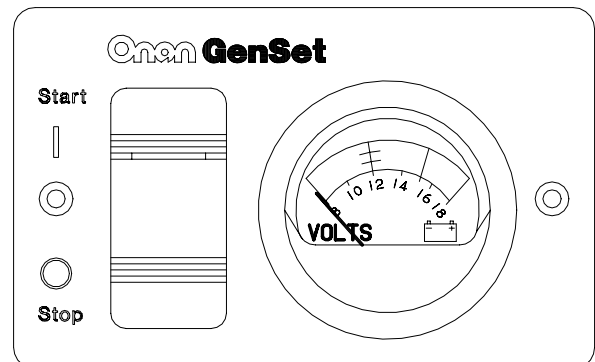

FIGURE 6. REMOTE CONTROL / DC VOLTMETER
- Remote start/stop switch with indicator lamp and DC voltmeter (Figure 6).
For best fuel economy and genset operation set the carburetor altitude adjust knob (Figure 6) for the altitude of the lake or river. (See *Powering Equipment* for information on how altitude affects the maximum power output of the genset.)